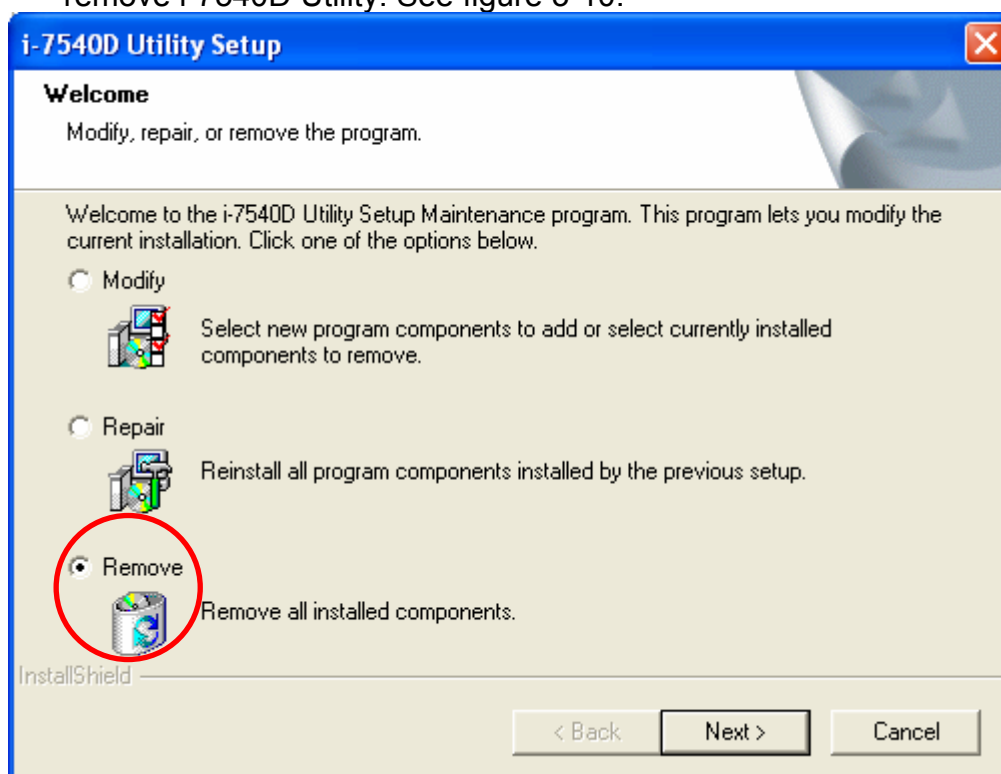

Figure 3-10: “Modify, repair, or remove the program” dialog
**Step 4:** Select the “Remove” option button, and press the “Next” button to remove i-7540D Utility. See figure 3-10.